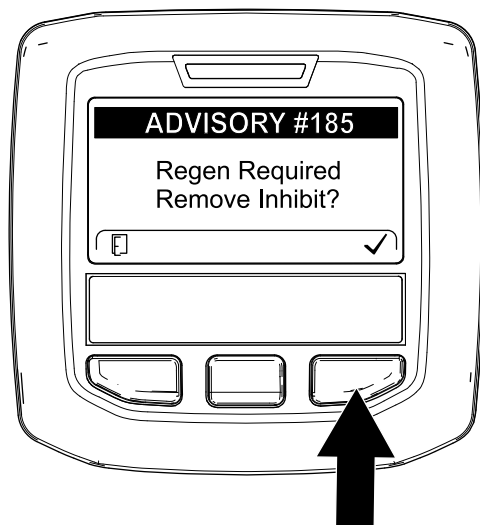

Figure 72
**Note:** If INHIBIT REGEN is set to ON, the InfoCenter displays ADVISORY #185 (Figure 72). Press button 3 to set inhibit regeneration setting to OFF and continue with the reset regeneration.